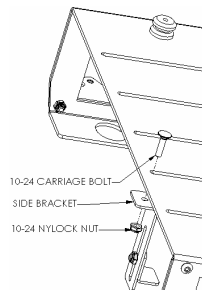
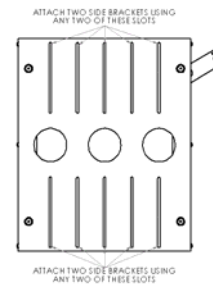

Figure 6
Figure 7
4. Attach side brackets to CPU adapter using 10-24 carriage bolts and Nylock nuts (see Figure 6 & Figure 7), making sure the nut is loose enough to allow the brackets to slide in order to adjust to width of CPU. Choose which slots to use on CPU adapter based on size of CPU and desired placement.